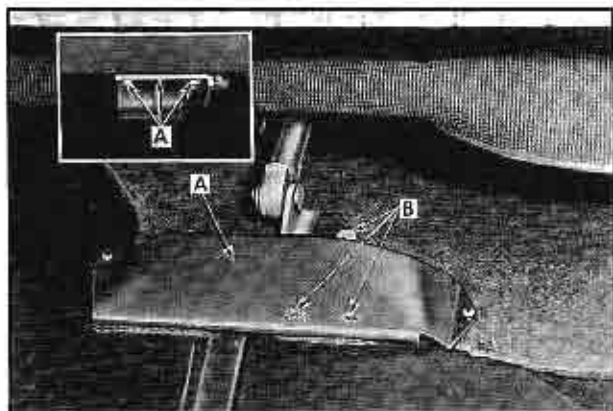
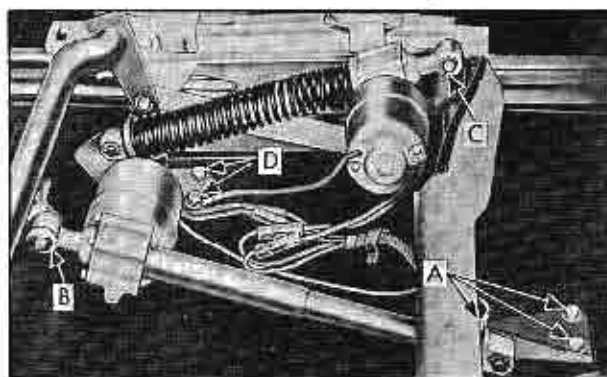
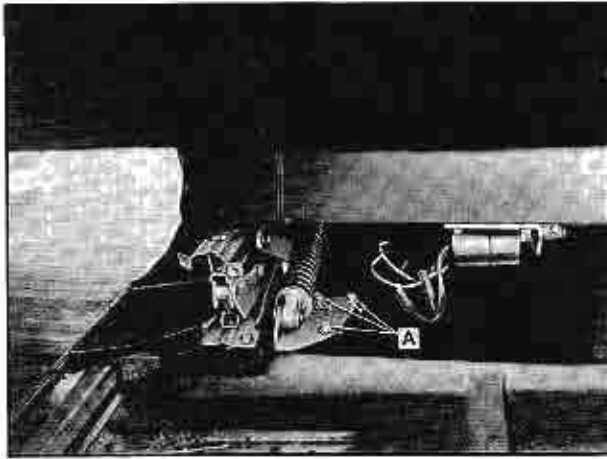

Fig. 3-64 Horizontal Electric Regulator Removal (Sedans)
Fig. 3-65 Horizontal Electric Regulator Removal (Coupes)
Fig. 3-67 Vertical Regulator Support Screws
3. Turn back carpet, remove regulator floor pan support cover "A", Fig. 3-64, and remove support screws "B".
4. On sedan models, detach horizontal regulator seat frame support at front of seat, retained by bolts "A" (inset of Fig. 3-64). On coupes, remove support screws "A", Fig. 3-65, retaining ring "B", (seat removed for illustrative purposes only) and remove regulator.
4. Under front of seat remove vertical regulator floor pan support screws "A". Fig. 3-67, then carefully remove regulator from support pin at rear of seat (See "C" and "D", Fig. 3-65).